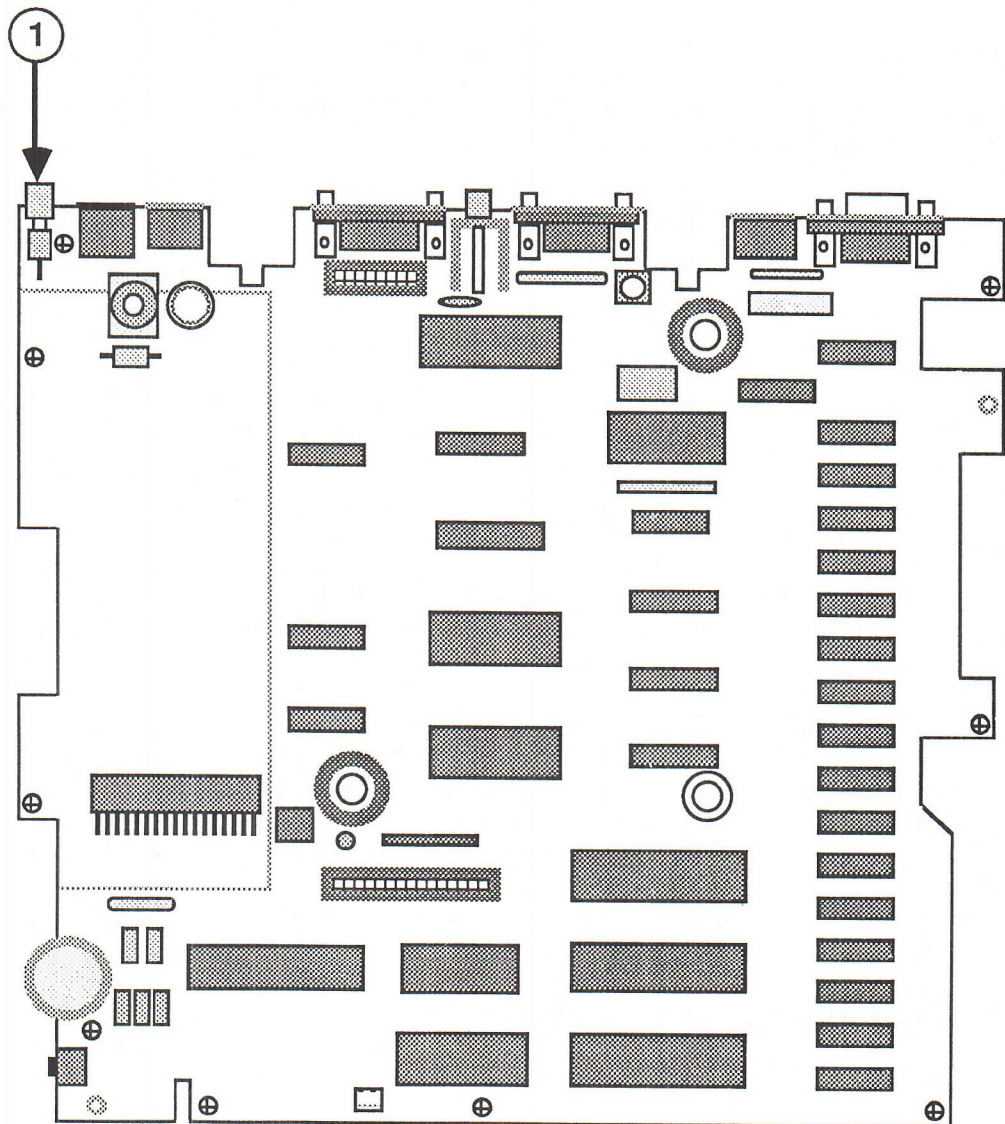

FIGURE 13
3. Locate the power switch at the upper left corner of the board (see Figure 13, #1).